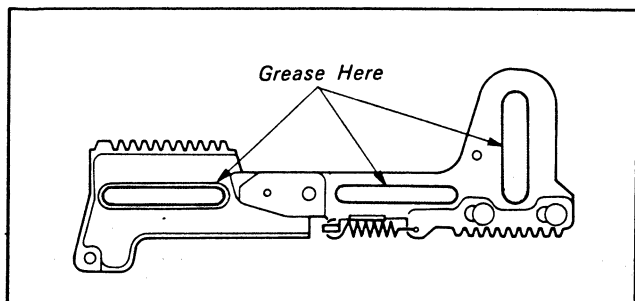

Fig. 3-27.
- 1) Lubricate the portions indicated in Fig. 3-27.